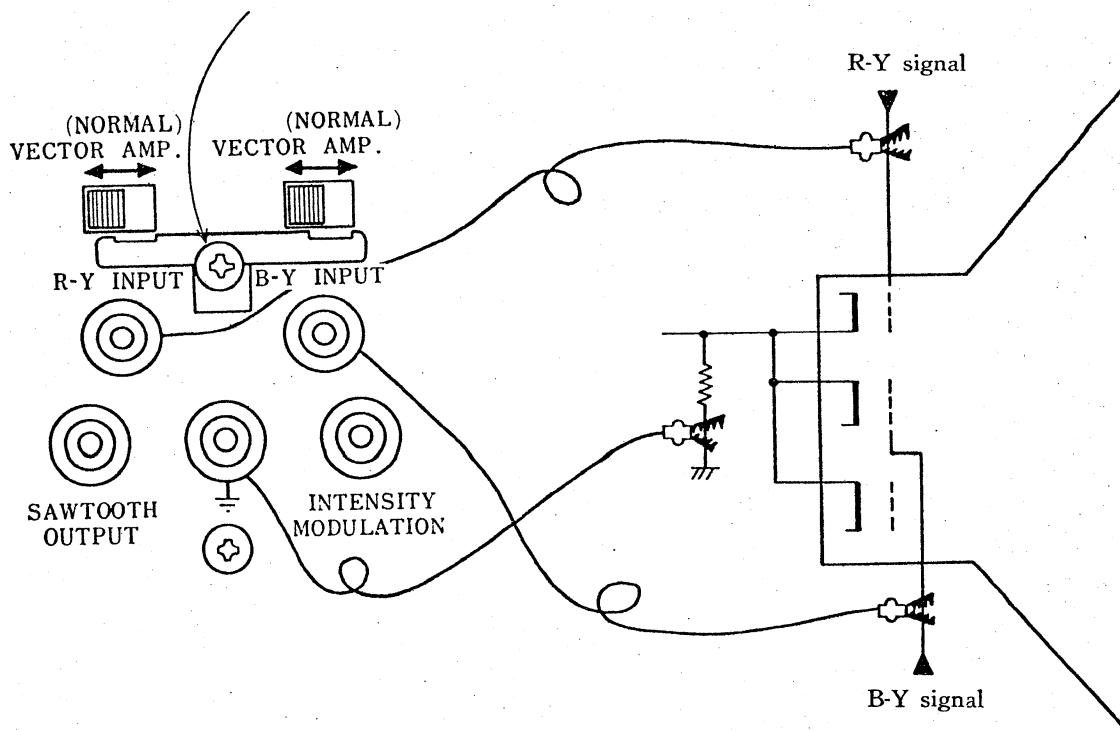

Fig. 3-13 VECTORSCOPE connection
- b. Connect leads from chassis to scope ground and R-Y and B-Y grid terminals on the CRT to respective jacks at the back of the scope, see Fig. 3-13.